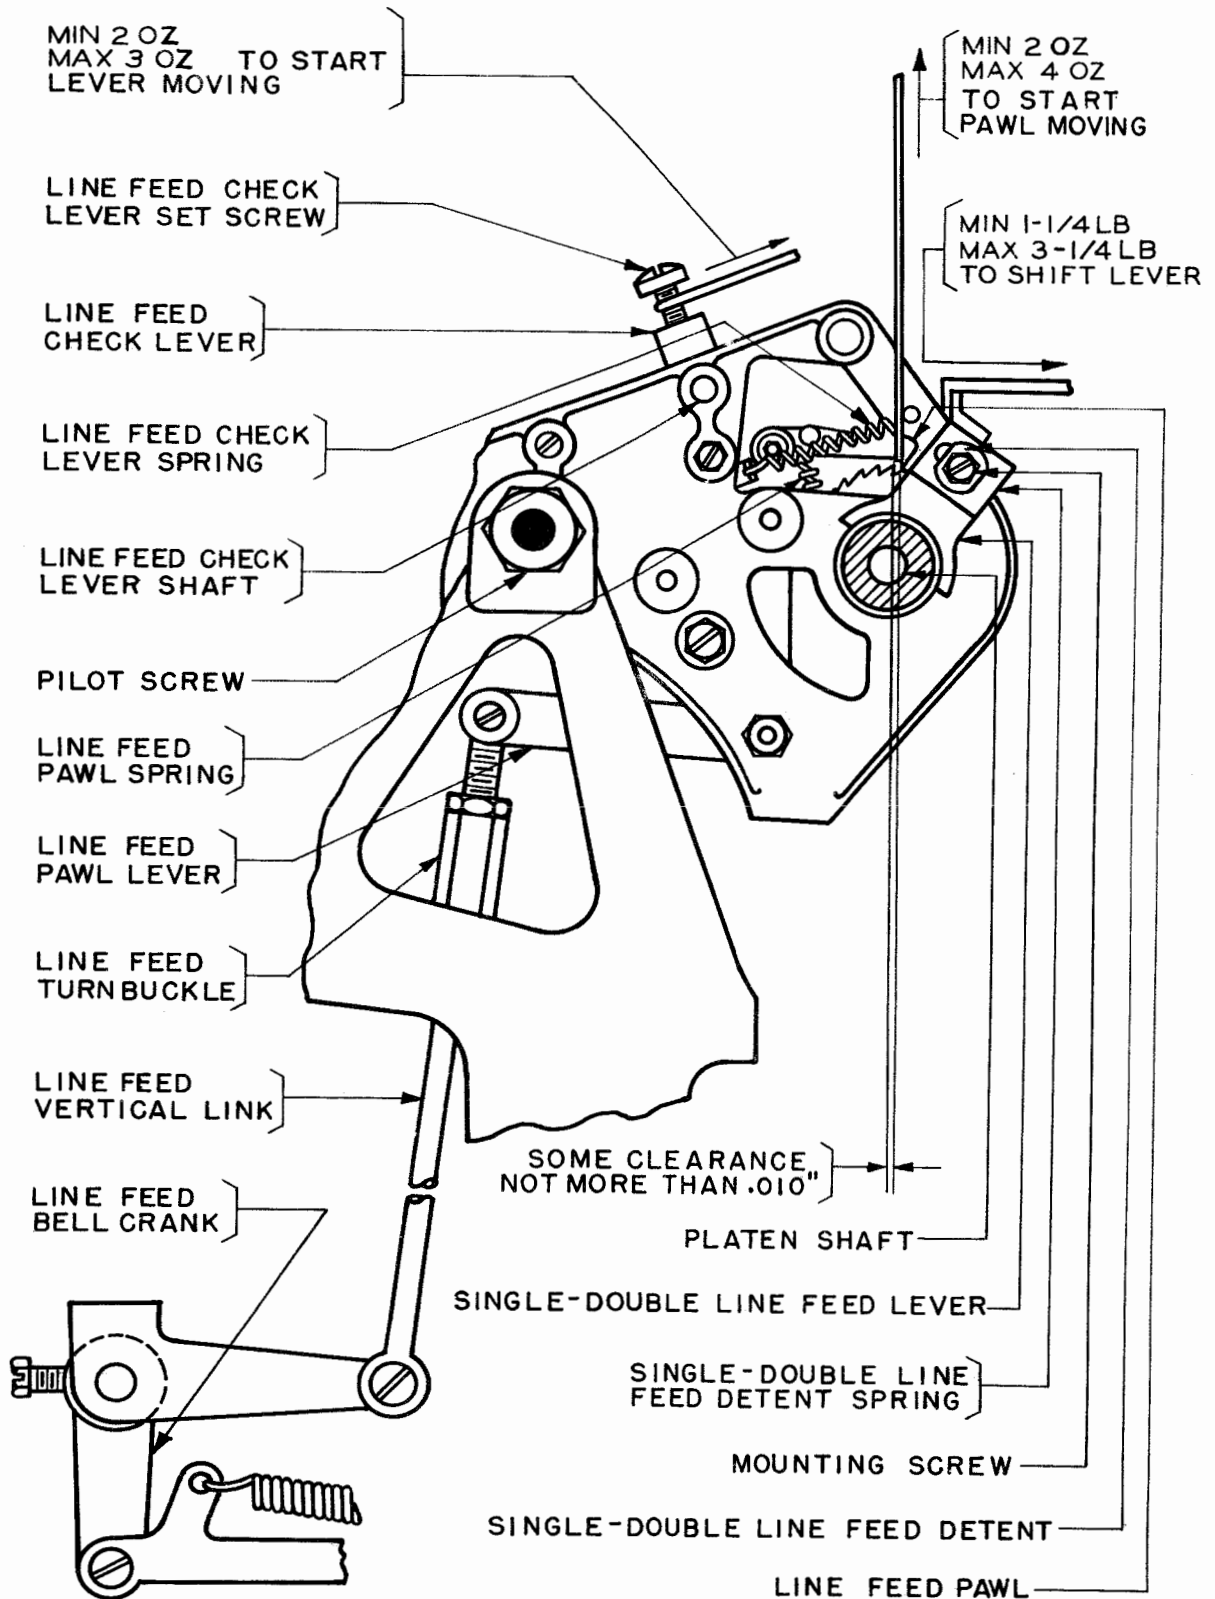

Figure 35
2. 66 Single-double Line-feed Detent should travel an equal distance on either side of detent-spring hump, gauged by eye, when the detent lever is shifted from the single to the double line-feed position. See Figure 35.
2. 67 Single-double Line-feed Detent Spring should exert a pressure of minimum 1-1/4 pounds, maximum 3-1/4 pounds. See Figure 35.
2. 68 Line-feed Pawl should just clear the edge of a ratchet tooth when the single-double line-feed lever is in single line-feed position, the line-feed detent roller is in the hollow between two ratchet teeth and the line-feed bell-crank is operated manually. See Figure 35.
To Adjust: Reposition the line-feed link turnbuckle. See Figure 35.
2. 72 Line-feed Pawl Spring should have a tension of minimum 2 ounces, maximum 4 ounces when the single-double line feed lever is in the double line-feed position and the line-feed pawl is in the unoperated position. See Figure 35.
2.76 Line-feed Check-lever Spring should have a tension of minimum 2 ounces, maximum 3 ounces. See Figure 35.